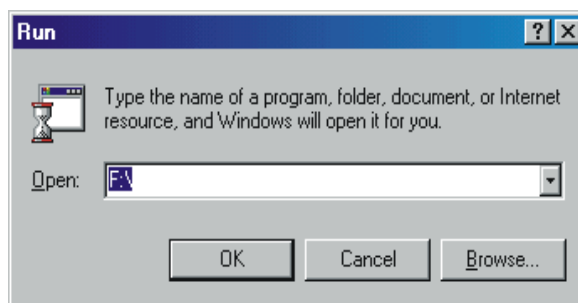

FIG 1-1. The Run program dialog box
■ In the Windows Start menu, click on Run.... A dialog box opens, see fig 1-1. In the box Open, type D:\setup.exe and click OK. If your CD-drive has a different letter assigned to it, substitute this letter for D.
In the Windows Start-menu, click on Run.... A dialog box opens, see fig 1-1.